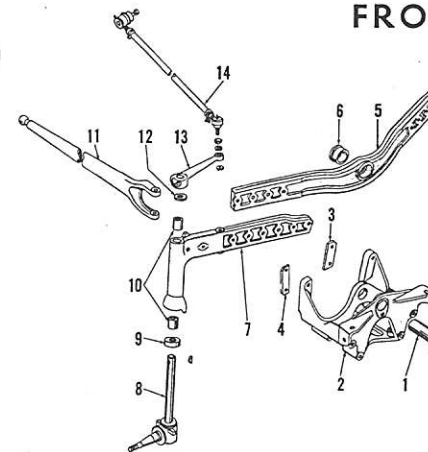
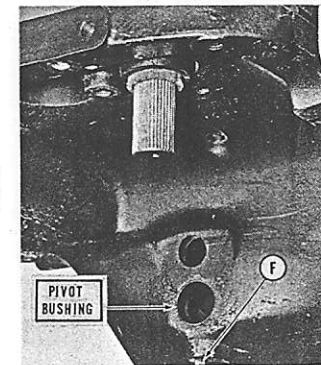
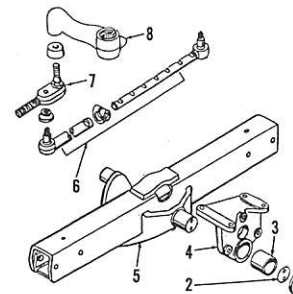
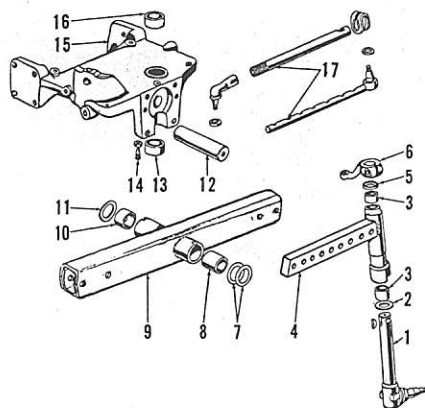

Fig. 1—Exploded view of front axle and associated parts used on Model MF-135.
Fig. 3—Axle pivot pin rear bushing is located in support housing as shown.
Fig. 2—Exploded view of front axle center member and associated parts used on Model MF150.
Fig. 4—Exploded view of front support and axle assembly of the type used on Model MF165.
2. Refer to Fig. 2 for an exploded view of axle center member, steering tie rods and associated parts. Rear pivot bushing is located in front support casting as shown in Fig. 3; axle extensions and steering spindles are similar to those shown in Fig. 4.
To remove the axle main (center) member (5—Fig. 2), support tractor under engine, remove lower pan from grille and disconnect tie rods from spindle arms. Remove both axle extensions with wheels and spindles attached. Remove thrust plate (1) and save shims (2) for reinstallation. Remove the cap screws retaining pivot bracket (4) to front support casting and remove the pivot bracket. Pull center member (5) forward out of rear bushing.
1. Refer to Fig. 1 for an exploded view of axle and support assembly. Axle extensions (7) may be removed by disconnecting radius rod (11) and
Renew center member and/or bushings if clearance is excessive. Replacement bushings are pre-sized and will not require reaming if carefully installed. Make certain, however, that lubrication holes in bushings are aligned with fitting holes in castings. When installing rear bushing (Fig. 3), remove grease fitting (F) and stake bushing in place by inserting a slim punch through grease fitting hole and indenting bushing into depression in upper wall of bushing bore.
When installing axle center member, reverse the removal procedure and vary the number of shims (2—Fig. 2) to obtain an end play of 0.002–0.008 when checked between rear face of pivot bracket (4) and front face of center member (5). Shims are available in thicknesses of 0.002, 0.005 and 0.010.
3. Refer to Fig. 4 for exploded view of front axle and associated parts. Pivot pin (12) is retained in front support casting (15) by the cone point set screw (14).
4. Each axle extension contains two renewable bushings (10—Fig. 1 or 3—Fig. 4) which require final sizing after installation to provide the recommended 0.0035-0.005 clearance for the spindle. Nominal spindle diameter is 1½-inches for Model MF165 and 1¼-inches for other models.